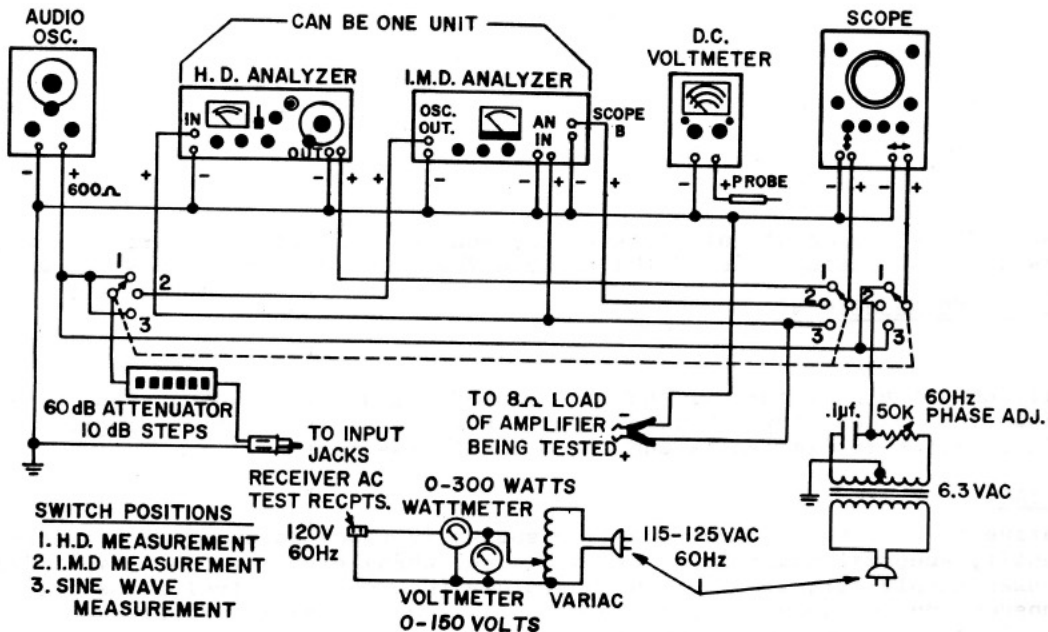

Figure 2
1. Connect the receiver's amplifier for testing as in Figure 2.